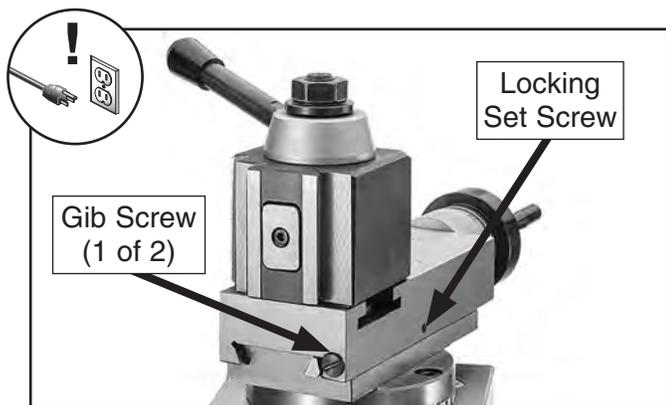

Figure 109. Compound rest gib components.
The compound rest gib is located on the bottom of the back edge of the compound rest (see **Figure 109**). This gib is a wedge-shaped plate. The gib pressure is applied by two set screws.
2. Loosen locking set screw (see **Figure 109**).